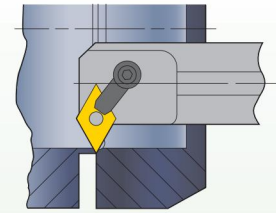

Figure 4
- On tubing-type parts that require a chamfer on the I.D., align I.D. chamfer tool with cut-off surface. This will enable the chamfering operation to actually separate the part from the bar (see Figure 4). Note the part may drop onto the chamfering bar, which, in this case, will act like a catcher for the part.